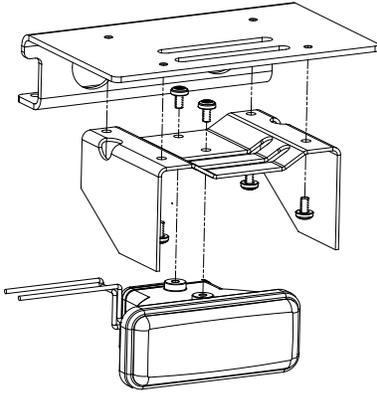

FIGURE 4
Step 2 With the lighthouse assembly placed on a work surface with the lighthouse up, remove the four screws that attach the lighthouse to the light bar mounting bracket (see Figure 4). It is not necessary to remove the heat shield.